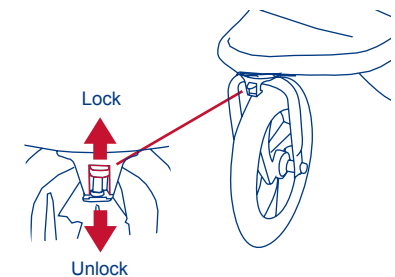

Fig. 13
13) • The front wheels are equipped with a swivel locking device. Push the button on each wheel upward to engage the locks and push downward to disengage the locking device (Fig. 13).